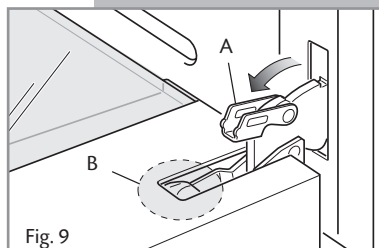
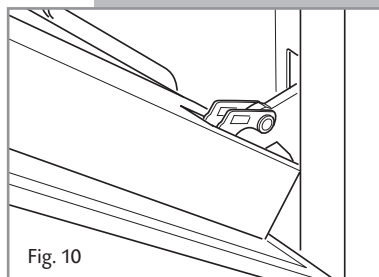

Fig. 9
Fig. 10
- Fully open the lever **A** on the left and right hinges (Fig 9).
- Gently close the door (Fig. 10) until the left and right hinges are hooked to part **B** of the door (Fig. 9).
1. Make sure the door is locked open (see fig. 10).